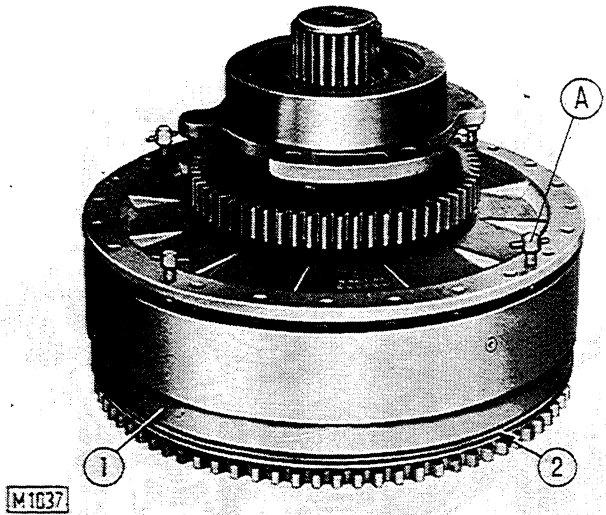

Fig. 8 - Disassembling the converter using forcing screws.
- Remove retaining ring (3) and withdraw rear bearing (8, Fig. 8) together with spacer (2) using a suitable puller.
- Using a punch on rear end of clutch shaft, withdraw shaft complete with hub (1, Fig. 11). Ensure that shaft splines do not clash with spacer (2, Fig. 8) to permit shaft withdrawal.
- Remove backplate (5).
Inspect driven plates (1, Fig. 8), checking that:
- Take off the capscrews (C₁, Fig. 9) and use puller screws **75295473** (A, Fig. 8) to separate the turbine assembly from converter housing.